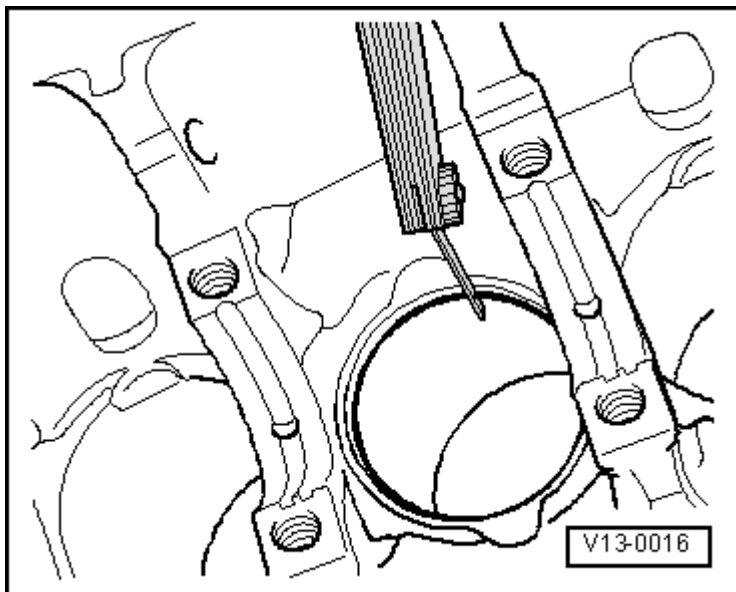

Fig. 22: Checking Piston Ring Gap
- Checking the ring gap. Refer to **Fig. 22**.